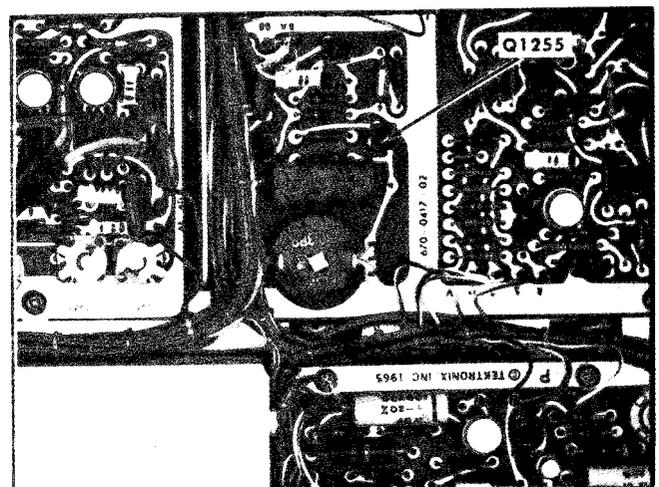

Fig. 6-5. Location of Q1255 (Calibrator section of A Sweep circuit board).
- b. Remove Q1255 [see Fig. 6-5] from the Calibrator section of the A Sweep circuit board.